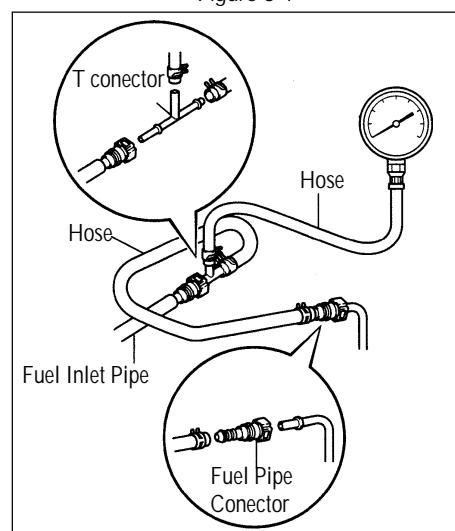

Figure 3-2
(1) Check whether the battery voltage is more than 12V.
(2) Disconnect the negative wiring cable from the battery.
(3) Mount a pressure gauge on the fuel input pipe (see Figure 3-2).
(4) Connect the negative terminal of the battery.
(5) Measure the fuel pressure.